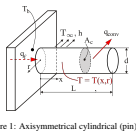

Figure 1: Axisymmetrical cylindrical (pin) fin.
1. Following *Homework 1 - AA 2021/22*, first case, consider a cylindrical (pin) fin, as shown in figure 1, which is made with a uniform, isotropic material with a thermal conductivity value of $k = 40$ W/(m K). The fin has a length $L = 40$ mm and a diameter $d = 4$ mm. The fin is cooled only by convection with a convective heat transfer coefficient $h = 400$ W/(m² K), and the temperature of the surrounding fluid is $T_\infty = 25$ °C. The temperature of the base of the fin is maintained at a temperature $T_b = 200$ °C, while also the tip of the fin contributes, with the same heat transfer coefficient, to the overall heat flux.